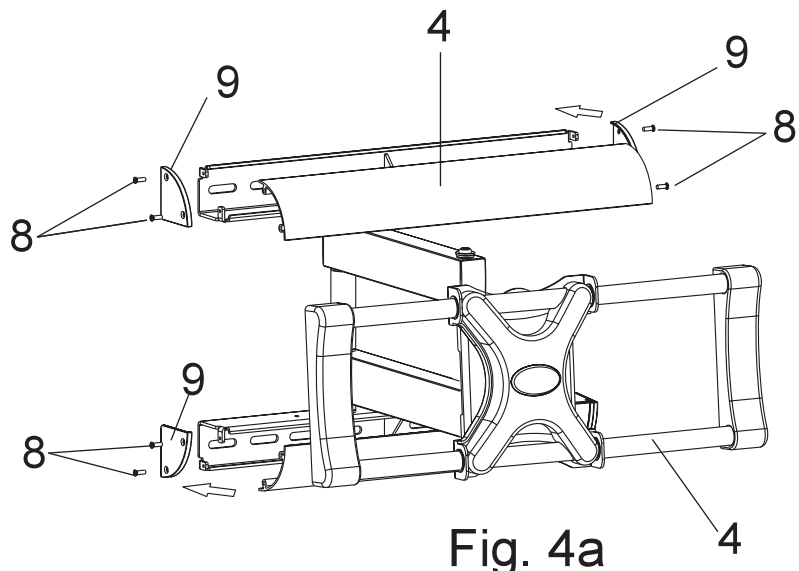

Fig. 4a
Do not over tighten (Fig.4a).
1. Prior to lifting the display, make sure that the safety lock is in the open position as shown in (Fig. 4a).